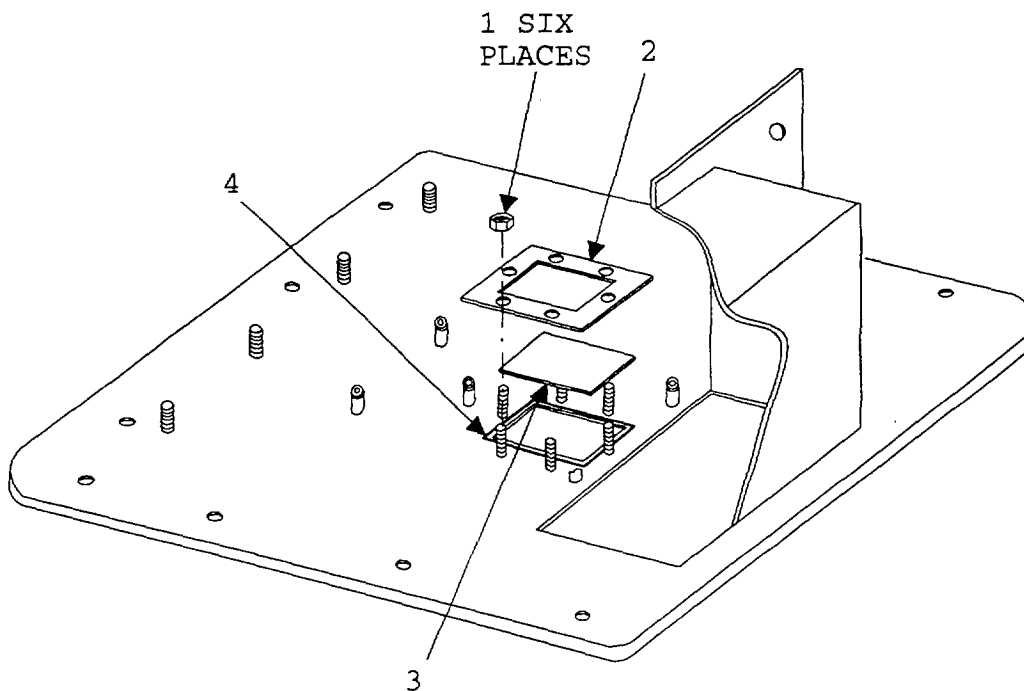

FIGURE 5-9.1. OSM Display Window.
- (1) Remove PS CCA (refer to para. 5-10a).
- (2) Remove FTF CCA (refer to para. 5-9a).
- (3) Remove MCF CCA (refer to para. 5-8a).
- (4) Remove OSM display CCA (refer to para. 5-11a).
- (5) Remove card cage (refer to para. 5-7.9a).
- (6) Using a nutdriver, remove six nuts (1, Fig. 5-9.1).
- (7) Carefully remove window retainer (2) and set aside.
- (8) Remove damaged OSM display window (3).